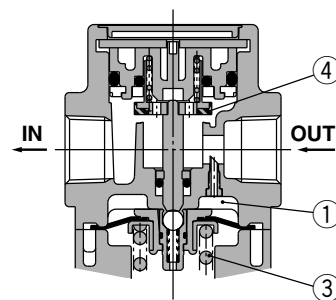

Figure 2 Backflow
When the inlet pressure is shut off and released, check valve ② opens and the pressure in diaphragm chamber ① is released into the inlet side (Figure 2).
This lowers the pressure in diaphragm chamber ① and the force generated by pressure regulator spring ③ lifts the diaphragm. Valve ④ opens through the stem, and the outlet pressure is released to the inlet side (Figure 2).